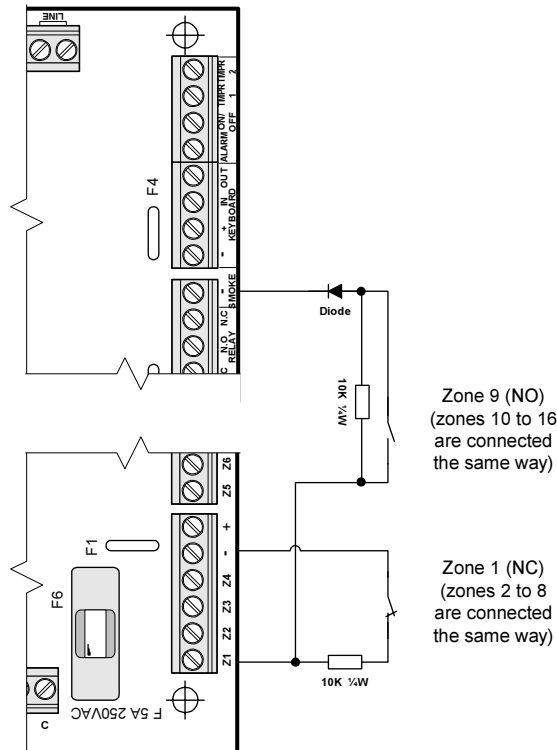

Figure 5 - Connecting NO Detectors (Zones 9 through 16)
As a rule, when using Zone Doubling Feature, Zones 1 through 8 can include ONLY Normally Closed (NC) type detectors. The NO detectors (with the EOL resistor) should be installed as illustrated in Figure 5.